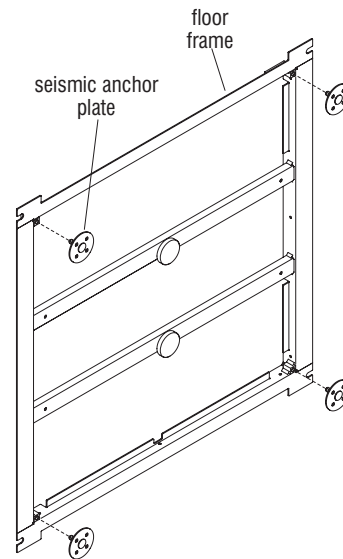

Figure 2
3. Thread the stem of each seismic anchor plate into one of the threaded holes at the underside of the floor frame at each corner (Figure 2).